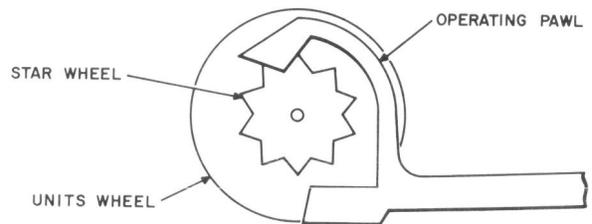
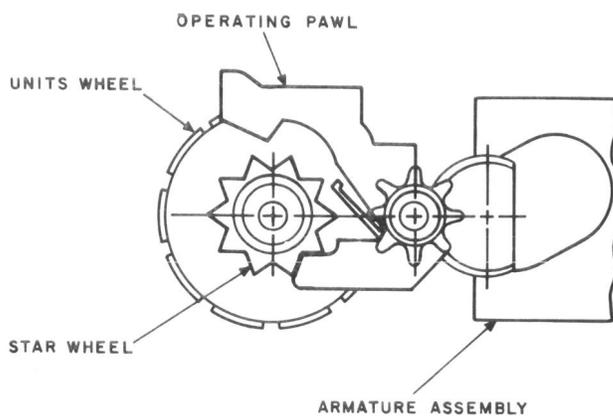

Fig. 2—Typical 14-Type Message Register (MOD 1)
Fig. 3—Typical 14-Type Message Register (MOD 2)
1.05 The 14-type register consists of three configurations. For the purposes of this section, they will be identified as "14-type initial design" (Fig. 1), "14-type MOD 1" (Fig. 2) (identified in previous issues as improved design), and "14-type MOD 2" (Fig. 3). The basic description and functioning of the three configurations are as follows.